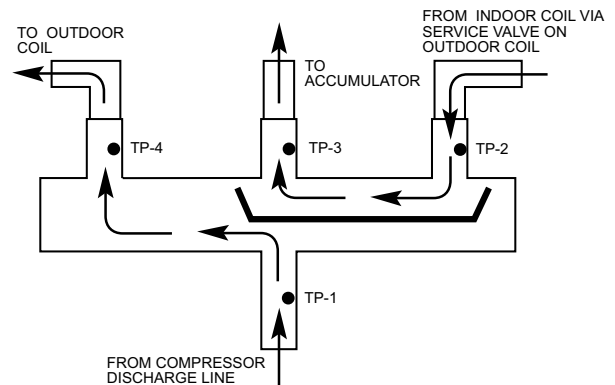
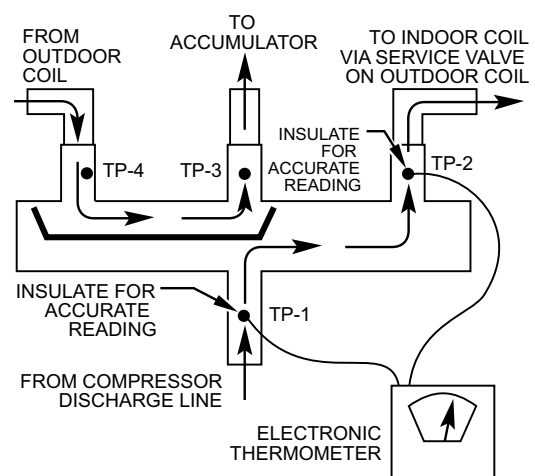

Fig. 54 – Reversing Valve
Fig. 55 – Reversing Valve
Using a remote measuring device, check inlet and outlet line temperatures. DO NOT touch lines. If reversing valve is operating normally, inlet and outlet temperatures on appropriate lines should be close to each other. Any difference would be due to heat loss or gain across valve body. Temperatures are best checked with a remote reading electronic-type thermometer with multiple probes. Route thermocouple leads to inside of coil area through service valve mounting plate area underneath coil. Fig. 54 and Fig. 55 show test points (TP) on reversing valve for recording temperatures. Insulate points for more accurate reading. If valve is defective: